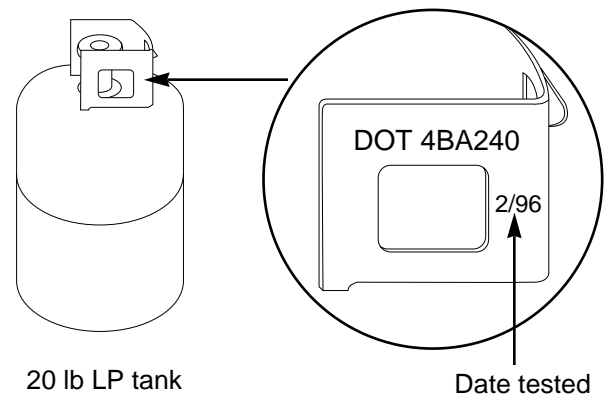

Figure 8
- Replacement LP tanks supplied by Weber satisfy the requirements. Check to be sure the tank has a D.O.T. certification, and has been tested within five years. Your LP gas supplier can do this for you. Figure 8.